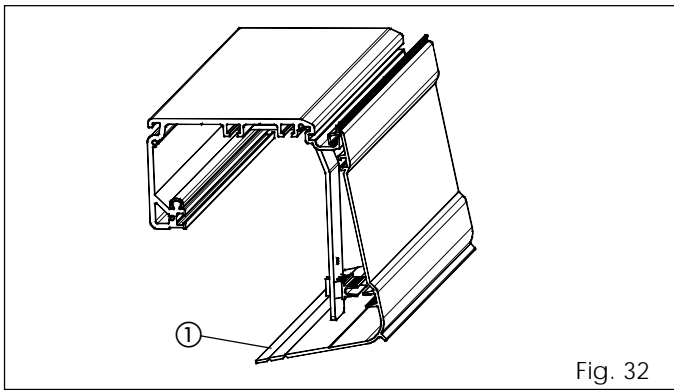

Fig. 32
- The housing is secured on the brackets with the appropriate hooks (fig. 32).
- Break off the excess lower housing profile with a pair of pliers (fig. 32 rif. ①).